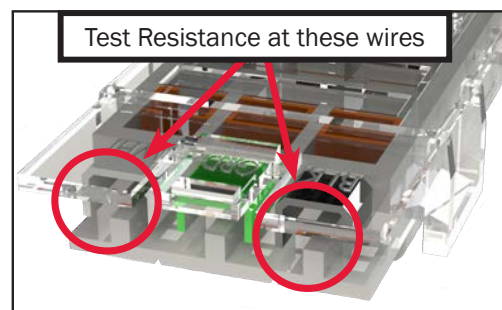

Figure 59
- Move the electric on the interior control panel to the ON position. Using an ohmmeter, test for resistance on the white and black terminals of the Aqua-Hot Molex terminal (Figure 59).